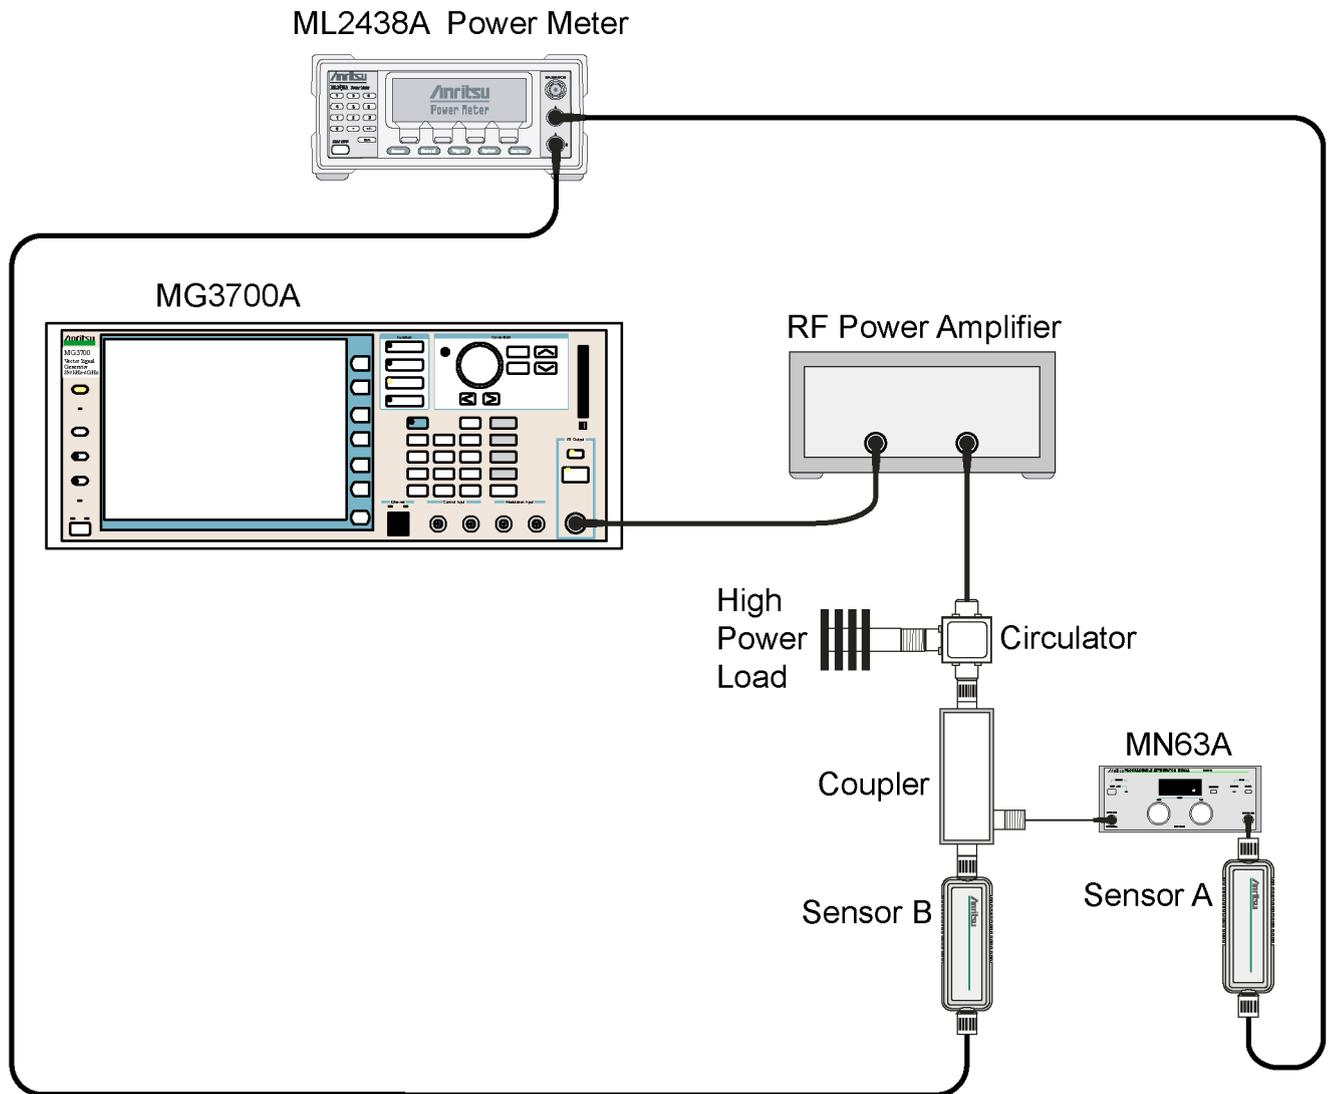

Figure 2-4. WCDMA RF Measurement Calibration Setup
1. Connect the MG3700A, RF power amplifier, programmable attenuator, power meter, and sensors according to Figure 2-4.
3. Connect the power sensors to the power meter only, calibrate the sensors, and then connect them to the coupler and to the attenuator, as shown in Figure 2-4.
4. To turn on the MS2717A Spectrum Analyzer, press the **On/Off** key and wait until the measurement display appears, then press the **Shift** key and press the **Mode** (9) key to activate the mode selection menu.
6. Press the **Shift** key, the **Preset** (1) key, and then the Preset soft key.